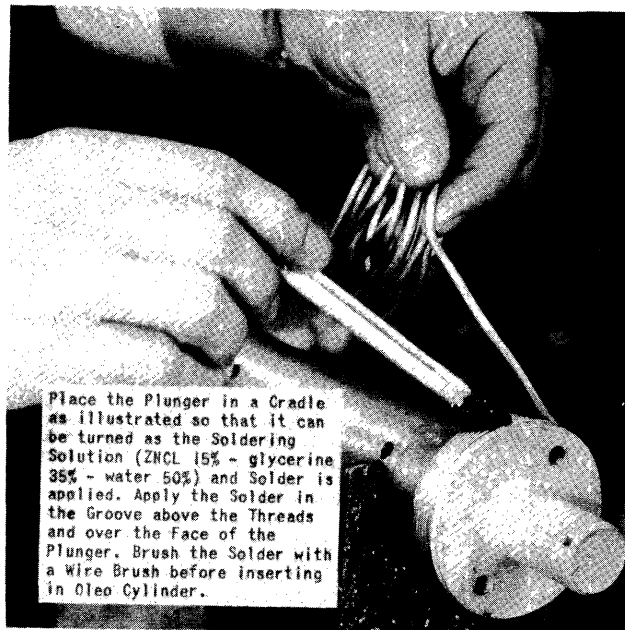
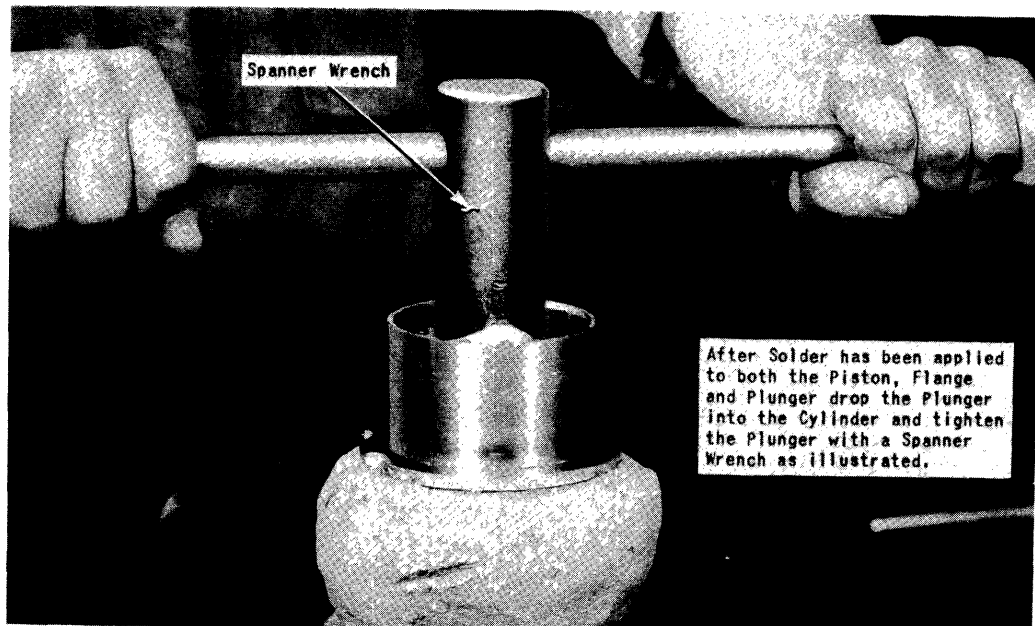

Figure 165 - Applying Soldering Fluid and Solder to Plunger
Figure 166 - Installing Plunger in Oleo Cylinder
(2) If the plunger has been removed from the cylinder, clean the cylinder top with "PERN-A-CLOR" degreasing solution (or equivalent).
(3) Place the cylinder in a vertical position and secure it in a vise. (See figure 166.)
(4) Mold a generous ring of asbestos and water mixture around the cylinder (figure 166) to restrain the heat from going down into the lower part of the cylinder.
(5) Apply a torch to the top of the cylinder and move the torch around the circumference of the cylinder continuously. Apply heat to both the inside and outside surfaces. Keep the torch moving continuously so that the metal will not be burned in one spot.
(6) Have several pieces of tube solder in ring form so that they will just fit inside the cylinder. Brush the inside of the cylinder around the flange with a soldering solution of 15 percent ZNCL, 35 percent glycerine, and 50 percent water. Drop a solder ring into the cylinder upon the flange.
(7) Place the plunger assembly on a cradle so that it may be revolved. (See figure 165.) Heat the end of the plunger around the groove above the threads.
(8) Brush on soldering solution and apply a generous coating of solder in the groove and on the nut face. Do not solder up the two spanner-wrench holes on the nut face.
After heating the Plunger and Cylinder and applying the preliminary coating of solder, drop the Plunger into the top of the Cylinder and turn it into the Cylinder with a Spanner Wrench as illustrated in Fig. 166. When the Plunger is seated firmly lay a Steel Rule across the top of the Cylinder so that it contacts the Plunger at the Cotter Hole as shown. The bottom of the Cotter Hole should be flush with the Rule to allow installation of the Cotter when the Upper Trunnion Cap and Plunger Nut are installed. If this test shows the Cotter Hole to be too low remove the Plunger and build up the Solder Joint or install another Plunger. Never install a Plunger Nut that cannot be safetyed with a Cotter as the Nut will turn out and loosen the upper Trunnion causing failure of the Oleo Strut assembly.
(9) Brush the solder with a wire brush and insert the plunger into the cylinder.
(10) Tighten the plunger into the cylinder with a spanner wrench. (See figure 166.)